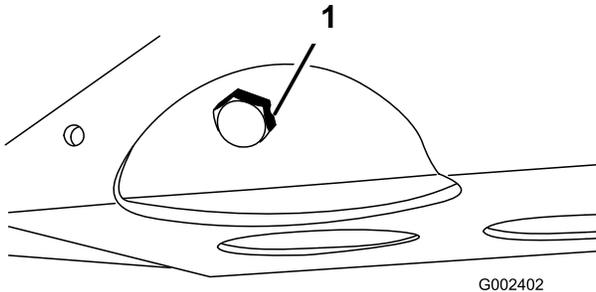

Figure 47
2. Remove the drain plug and let oil flow into a drain pan (Figure 47). When the oil stops, install the drain plug.